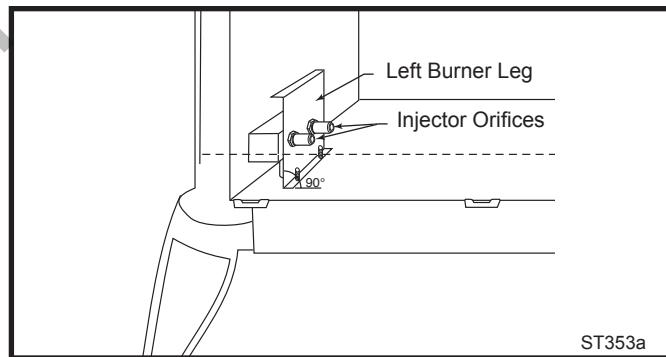

Fig. 39 Remove and replace injector orifices.
2. Remove injector orifices from left burner leg using 1/2" wrench. (Fig. 39)
**NOTE:** It is very critical to keep the left burner leg, which holds the injectors, at a 90° angle to the base. (Fig. 39) This keeps the orifices aligned with the tubes inside burner. Failure to do so could affect the flame appearance and performance of the unit.